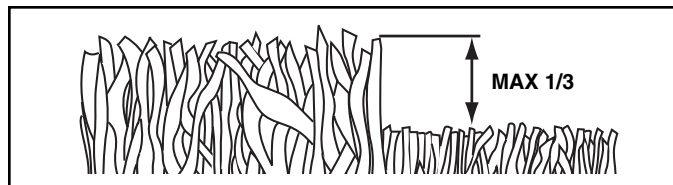

FIG. 13
- For best results, adjust the lawn mower cutting height so that the lawn mower cuts off only the top one-third of the grass blades (See Fig. 13). If the lawn is overgrown it will be necessary to raise the height of cut to reduce pushing effort and to keep from overloading the engine and leaving clumps of mulched grass. For extremely heavy mulching, reduce your width of cut by overlapping previously cut path and mow slowly.